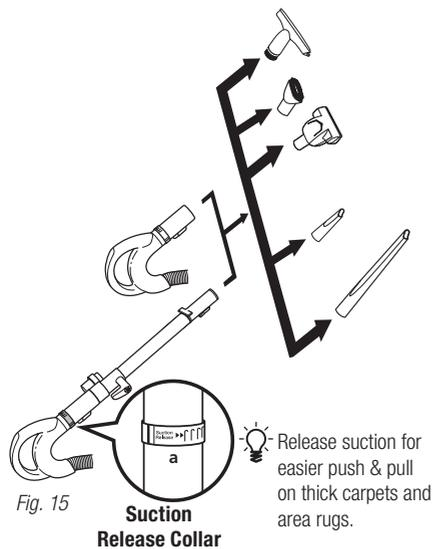

Fig. 15
- 2 Attach desired accessory onto the end of either the extension wand or the handle. (Fig. 15)
- 3 **Your vacuum has tremendous suction power. Adjust the amount of suction with the suction release on the handle. Open the valve (a) by rotating the collar 90° counterclockwise for low suction when doing light jobs such as drapes or fine surfaces. Close the valve (a) by rotating the collar clockwise 90° for high suction and when using the hand held accessories. (Fig. 15)**